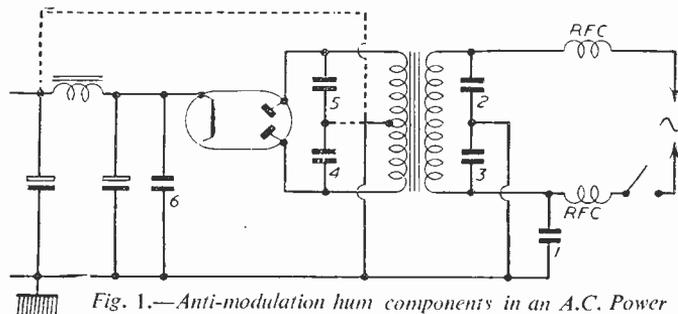
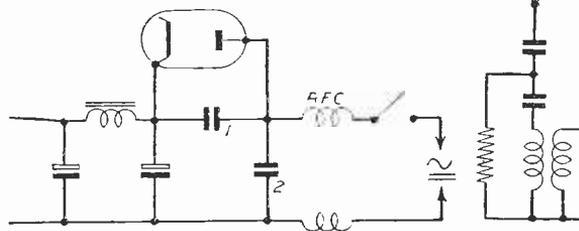
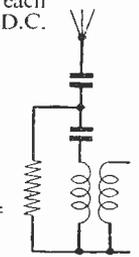

Fig. 1.—Anti-modulation hum components in an A.C. Power pack.
Fig. 2.—Anti-hum condensers in an A.C./D.C. circuit.
Fig. 3.—Aerial circuit hum suppressors.
In A.C. operated receivers, an effective procedure is to connect capacitors from the rectifier anodes to the smoothed H.T. positive rail (or to chassis) or shunted across the mains supply. Fig. 1 shows the positions of anti-modulation-hum components in A.C. power packs. Usually, only one of the precautions is necessary and should effect a cure—sometimes two combinations may be required. The reference numbers on the capacitors indicate the order in which it is recommended that tests should be made. Firstly, a capacitor may be connected from one side of the mains line (preferably that which is switched) to chassis. If this fails to cure the hum, each side of the mains line should be by-passed (components 2 and 3). Should this be ineffective try fitting components 4 and 5 across the rectifier anodes to chassis, as shown, or to the smoothed H.T. line. As a final attempt—a last resort—a capacitor (6) can be tried across the cathode of the rectifier to chassis. The R.F. chokes are only necessary in cases where the trouble is due to mains-borne signals.
In A.C./D.C. arrangements (Fig. 2) the first step is to try shunting a capacitor across the mains supply. Next, try one connected across the anode and cathode of the rectifier—although it will be found that in
It sometimes happens that the trouble is at the input end of the receiver, especially in circuits where tightly-coupled aerial circuits are used. Receivers using "bottom end" coupling in the aerial tuning circuit are noticeably prone to this trouble. A simple method to overcome the trouble is shown in Fig. 3, the capacitors being of around 0.01 μ F and the resistor may be between 10,000-4,700 ohms. Occasionally, the trouble can be cured simply by the addition of the resistor, but usually the complete filter is required.
When the "Salvare" is opened up for operation a sliding shelf beneath the transmitter is withdrawn. This serves as a support for a message pad but also carries the simple instructions for operating the installation. The controls are numbered consecutively in the order in which they are to be manipulated, and any unskilled person can operate the "Salvare" simply by following these numbers through. For instance the figure 1, painted on the front panel, indicates the setting of the send/receive switch to the receiving position, figure 2 indicates the switching-on of the power from the batteries, figure 3 shows the switching of power through to the transmitter, and so on throughout the complete sequence of operation. A built-in meter provides for rapid checking of battery voltage and transmitter valve feed current.